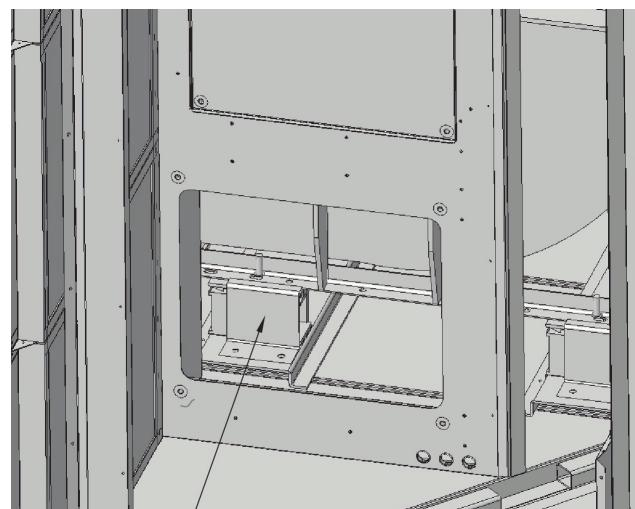

Fig. 42 — Fan Shipping Bracket
9. Remove the (2) shipping brackets by removing the (2) screws on each bracket. See Fig. 42.